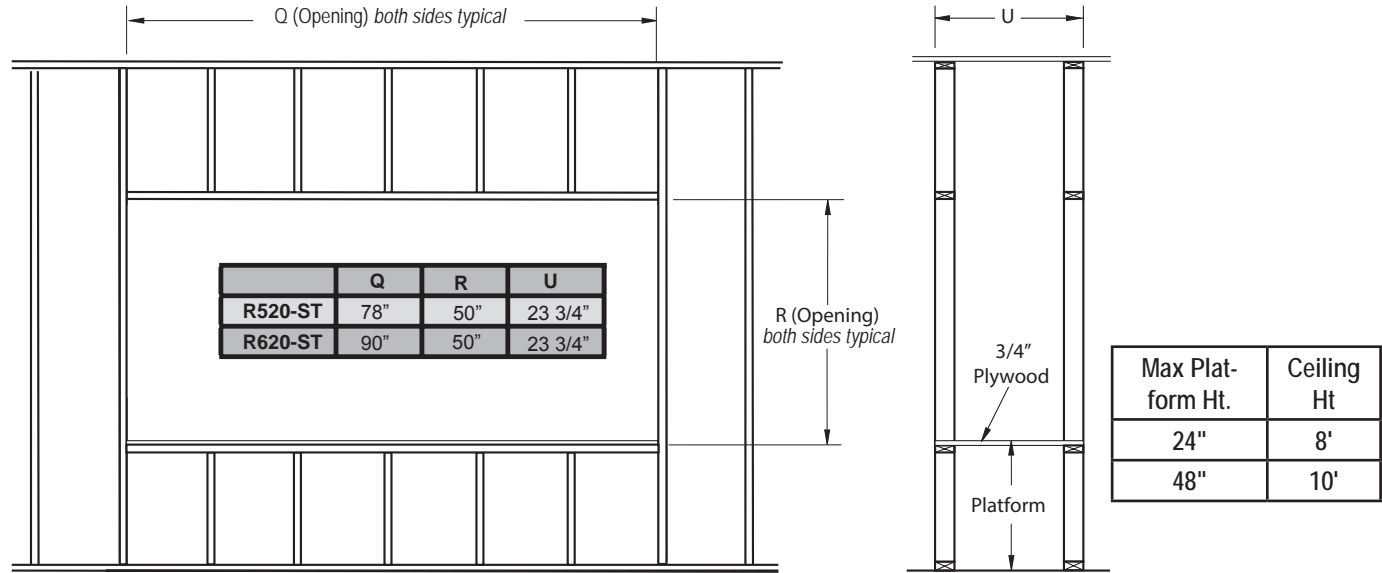

Figure 1 Sec.2 Fireplace installation, (Rough Frame-In dimensions) Both Sides are Typical.
Step 2. Once the fireplace is placed on the platform, ensure there is access to install the vent pipe, and inline power vent module if applicable and the gas line. Note the gas line connection location and room to provide a gas service shut-off valve; according to local gas codes. Before fastening in place line up the front face and rear face of the fireplace (top and bottom), Figure 1. then secure in place with 1/4" wood screws.